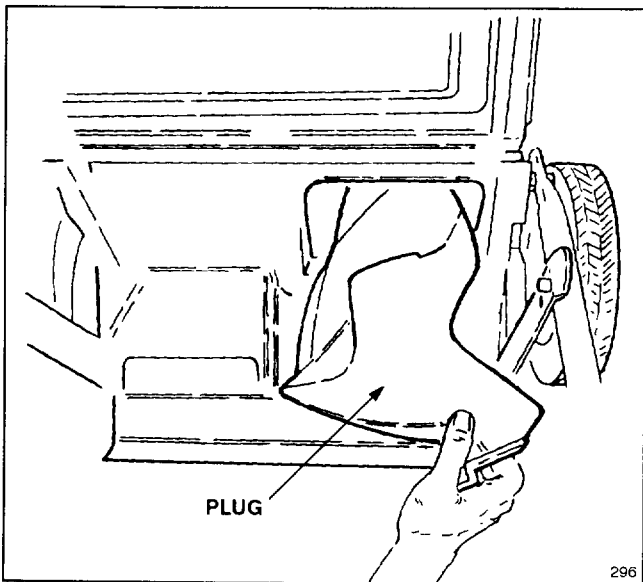

Figure 35
2. **Mulching Plug Kit, Model No. 59181**—Includes mulching plug (Fig. 35), mulching blade, blade stiffener and anti-scalp cup. Converts rear bagging mower into a mulching mower.